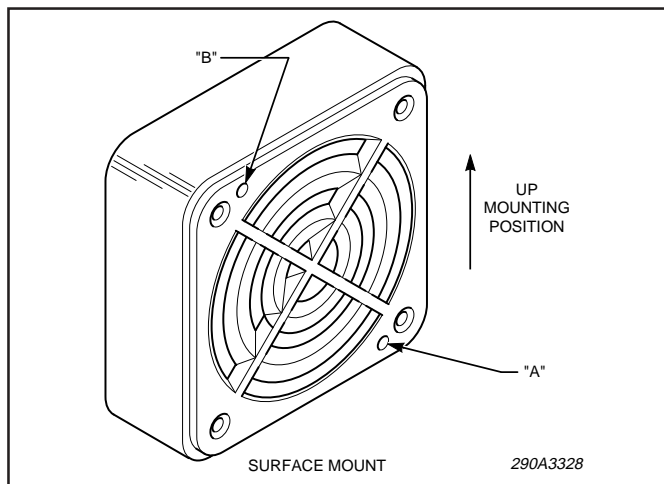

Figure 4. Re-Entrant Housing 4-inch Speaker Mounting.
b. See figure 4. Using a small pin punch or similar blunt tool, knock out hole "B" from the rear of the speaker, if a two wire light is being installed. If a four wire light is being installed, knock out both holes "A" and "B" from the rear of the speaker. If the speaker is housed in a metal enclosure, use a round file to remove any burrs that may be present. Figure 4 shows a basic 4-inch speaker enclosure containing no parts other than the speaker. However, some 4-inch speaker units do include components in addition to the speaker. DO NOT remove any parts before knocking out the holes indicated in figure 4.